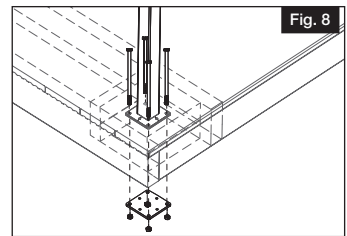

Fig. 8
- e. Push bolts through post plate and attach separate bottom plate from beneath deck surface (Fig. 8). Posts can be leveled as needed by using shims.